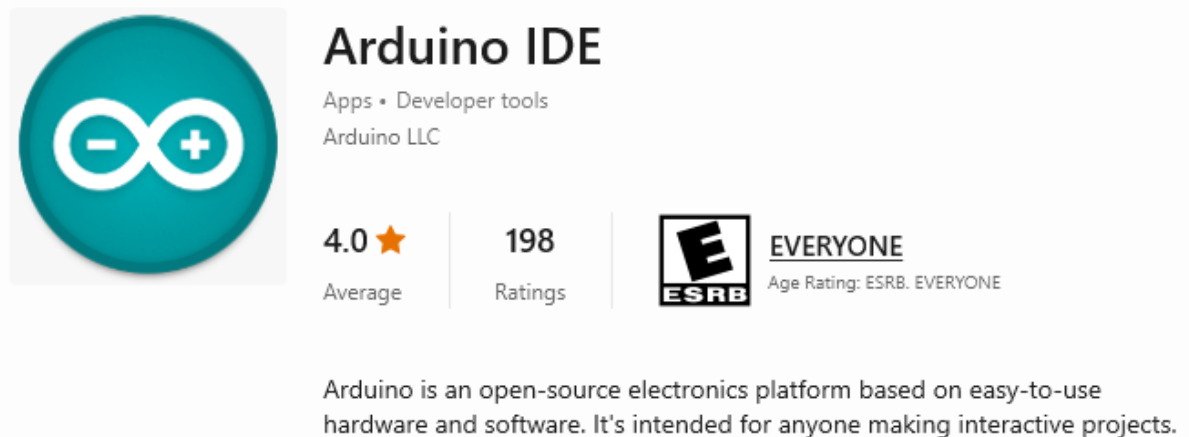

Figure 8 Arduino IDE App. Screen shot taken of the app in the Microsoft Store.
2. Download and install an Arduino IDE. For windows, go to your Microsoft Store and search “Arduino IDE.” Then download the program with the Arduino logo (see Fig. 8)